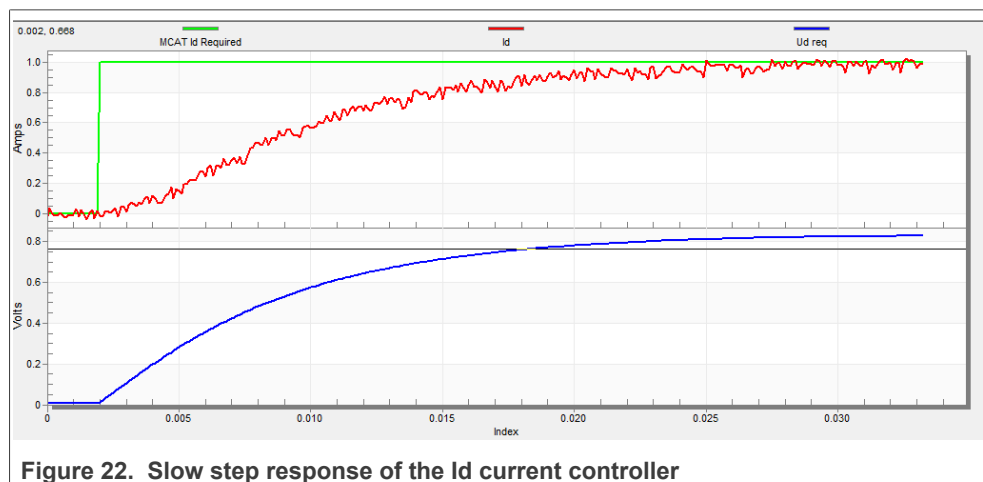

Figure 22. Slow step response of the Id current controller
- The loop bandwidth is low (110 Hz) and the settling time of the Id current is long (Figure 22).